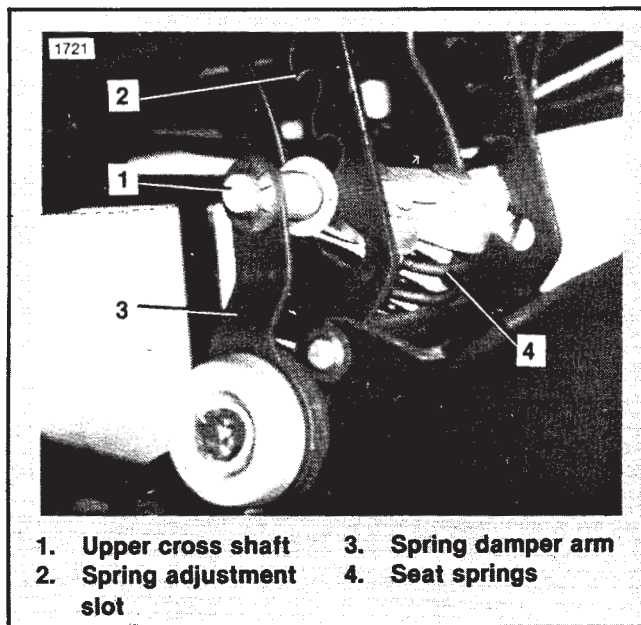

Figure 19. Seat Spring Adjustment
2. See Figure 19. Move upper cross shaft (1) up or down into spring adjustment slots (2). To avoid pinching your fingers, grasp spring damper arm (3) on left side of seat to move the cross shaft.